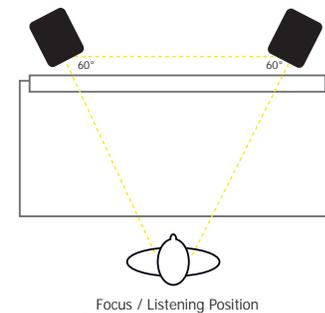

Figure 3.1
- *Mid-Field Configuration* – This configuration is similar to the close-field configuration. It is normally used with larger monitors or when the monitors are too large or heavy for the meter bridge. This set up has the potential for a larger sweet spot and better spatial imaging. Make sure that the height of the woofer is above the height of the console. (Figure 3.1)